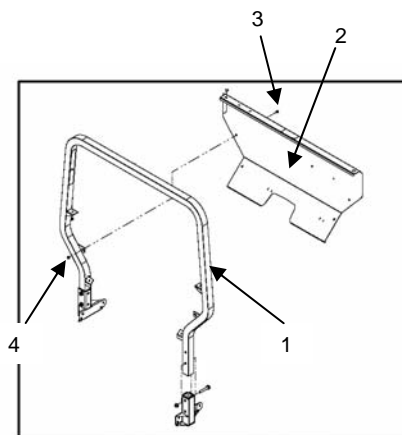

Figure 1
3. Remove ROPS cover panel. See Figure 1.
5. Remove four (4) socket head screws that secure each seat to vehicle. Lift both seats from vehicle.